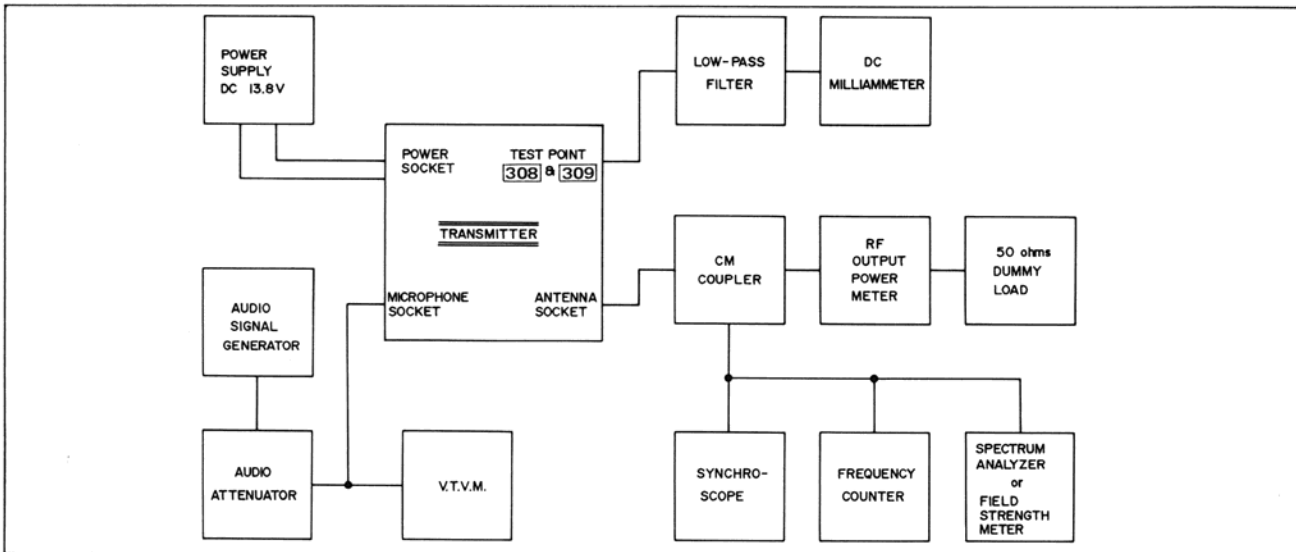

Figure 6
- 2- When making the connection of measuring instruments, see Figure 6.